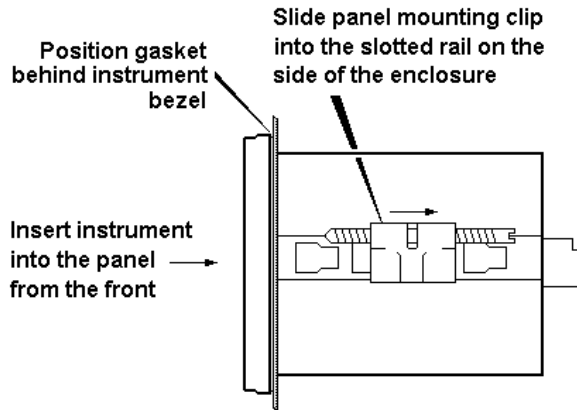

Fig 5 Fitting panel mounting clips
- Fix two panel mounting clips to opposite sides of the instrument and tighten until the indicator is secure as shown in Fig 5. Four clips are required to achieve an IP65 between a BA328C and the instrument panel.